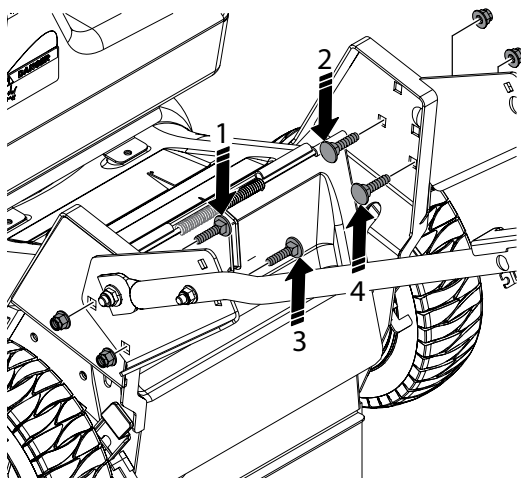

Figure 1-3. Secure the Handle Bar Assembly
3. While holding the handle bar assembly in place, secure using four (4) 3/8-16 x 3/4" carriage bolts and four (4) 3/8-16 elastic flange nuts provided as shown tighten mounting hardware and pivot bolts. See Figure 1-3.